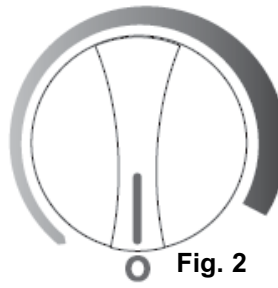

Fig. 2
- To turn off the freezer (no cooling), rotate the control knob to the "0" (off) position. See Fig.2.